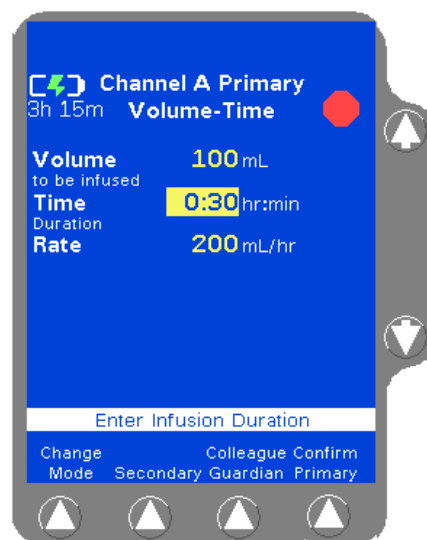

Figure 4-31 Volume-Time Programming Screen
- Highlight **Primary Volume-Time**, then press the **Select** soft key. The Volume-Time Programming screen is displayed (Figure 4-31).